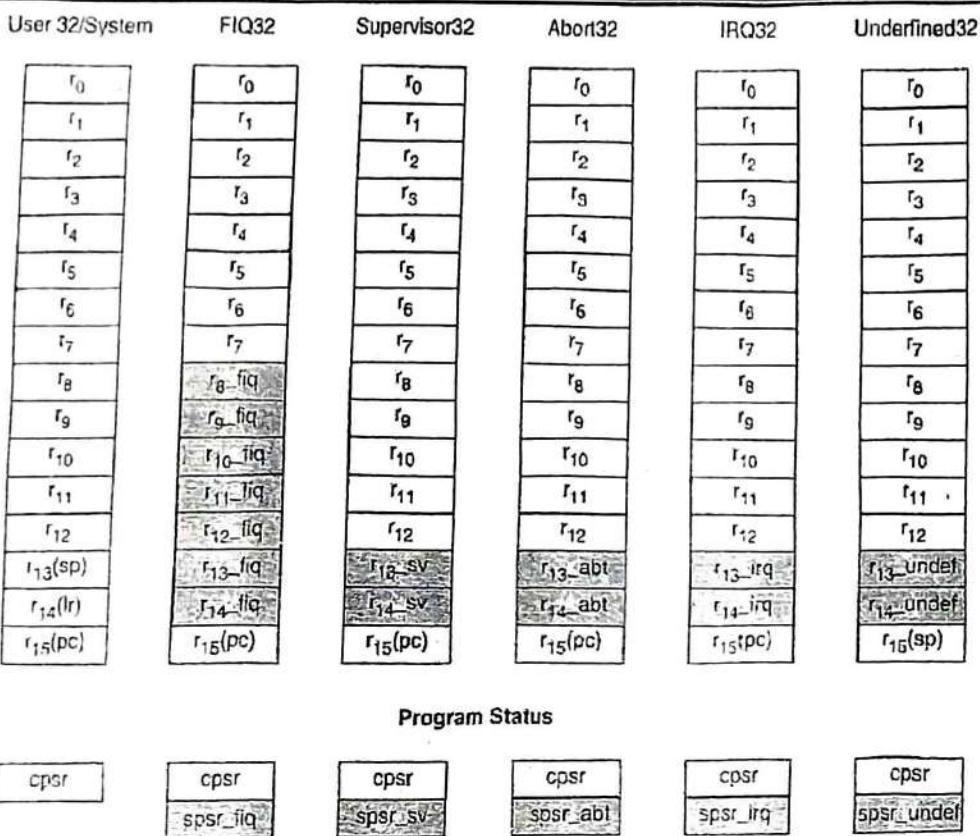

Fig. 11.4.1 : ARM programming model
- Fig 11.4.1 shows the programming model of the ARM processor. The ARM processor has 37 thirty two bit registers.
- Fig. 11.4.1 shows the programming model of the ARM processor.
- Register R₁₃ is a stack pointer as shown in Fig. 11.4.1.
- Out of 37 registers, only 20 registers which are shown shaded in Fig. 11.4.1 are used as banked registers.
- Fig. 11.4.1 also indicates the mode of the bank registers. Banked registers of a particular mode are denoted by r number_mode e.g. abort mode has banked registers r_{13_abt}, r_{14_abt} and spsr_abt.